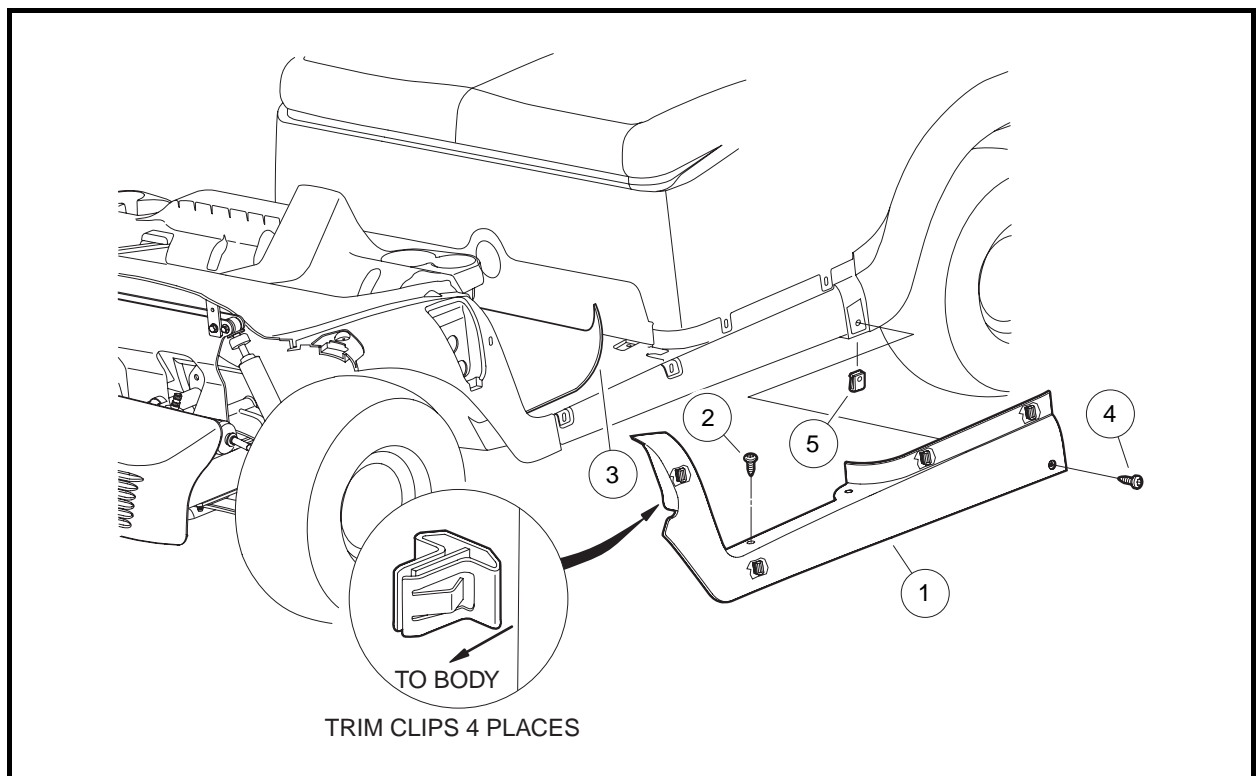

Figure 4-4 Floor Mat Retainer
The floor mat retainers secure the floor mat to the vehicle and also provide a clean appearance to the side of the vehicle. Normally, if only the floor mat (3) needs to be removed, the screws (2) can be loosened slightly to allow the floor mat to be slid from beneath the retainers (1) (**Figure 4-4, Page 4-6**).
1. Remove screws (2) from top of retainer (1) (**Figure 4-4, Page 4-6**).
2. Remove screw (4) from lower rear corner of retainer. This screw threads into a J-clip (5) that is attached to the rear underbody.
1. Position the retainer on the vehicle and press firmly to engage the trim clips to the vehicle (**Figure 4-4, Page 4-6**).
2. Install one screw (4) at the lower rear of the retainer. Tighten screw to 1.8 ft-lb (2.5 N·m).
3. Ensure the floor mat is properly positioned beneath the top flange of the retainer and install two screws (2). Tighten screws to 4.4 ft-lb (6.0 N·m).